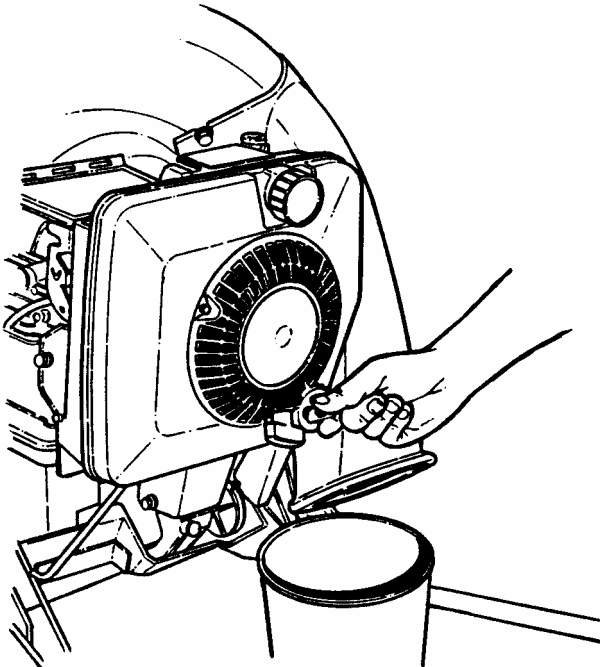

FIGURE 3.1
2. For simplest/cleanest oil change, loosen lower handle wing nuts and stand mower up on lower handle as shown in Figure 3.1. Drain oil through dipstick tube into a container. NOTE: On self-propelled mowers, the speed control rod prohibits folding of the handles. Simply tip mower on its side to drain oil.